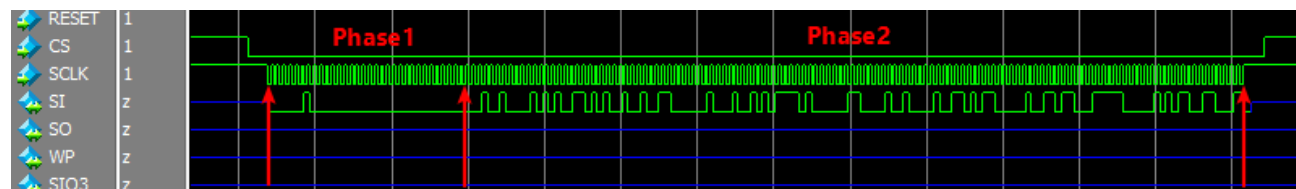

Figure 5.3. Example for Page Program Sequence
- SPI Flash Page Program example (Figure 5.3):